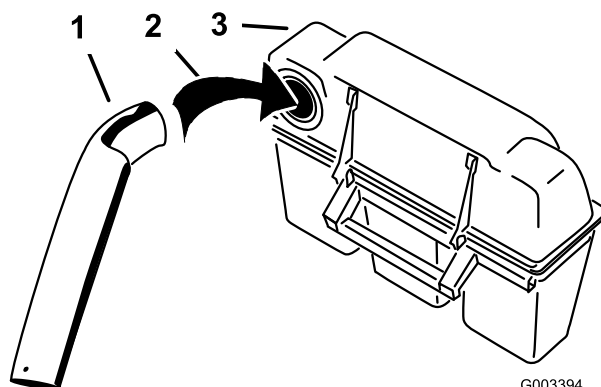

Figure 20
5. Install the upper tube into the bagger opening and pull it back out so the rubber seal is protruding out (Figure 20).